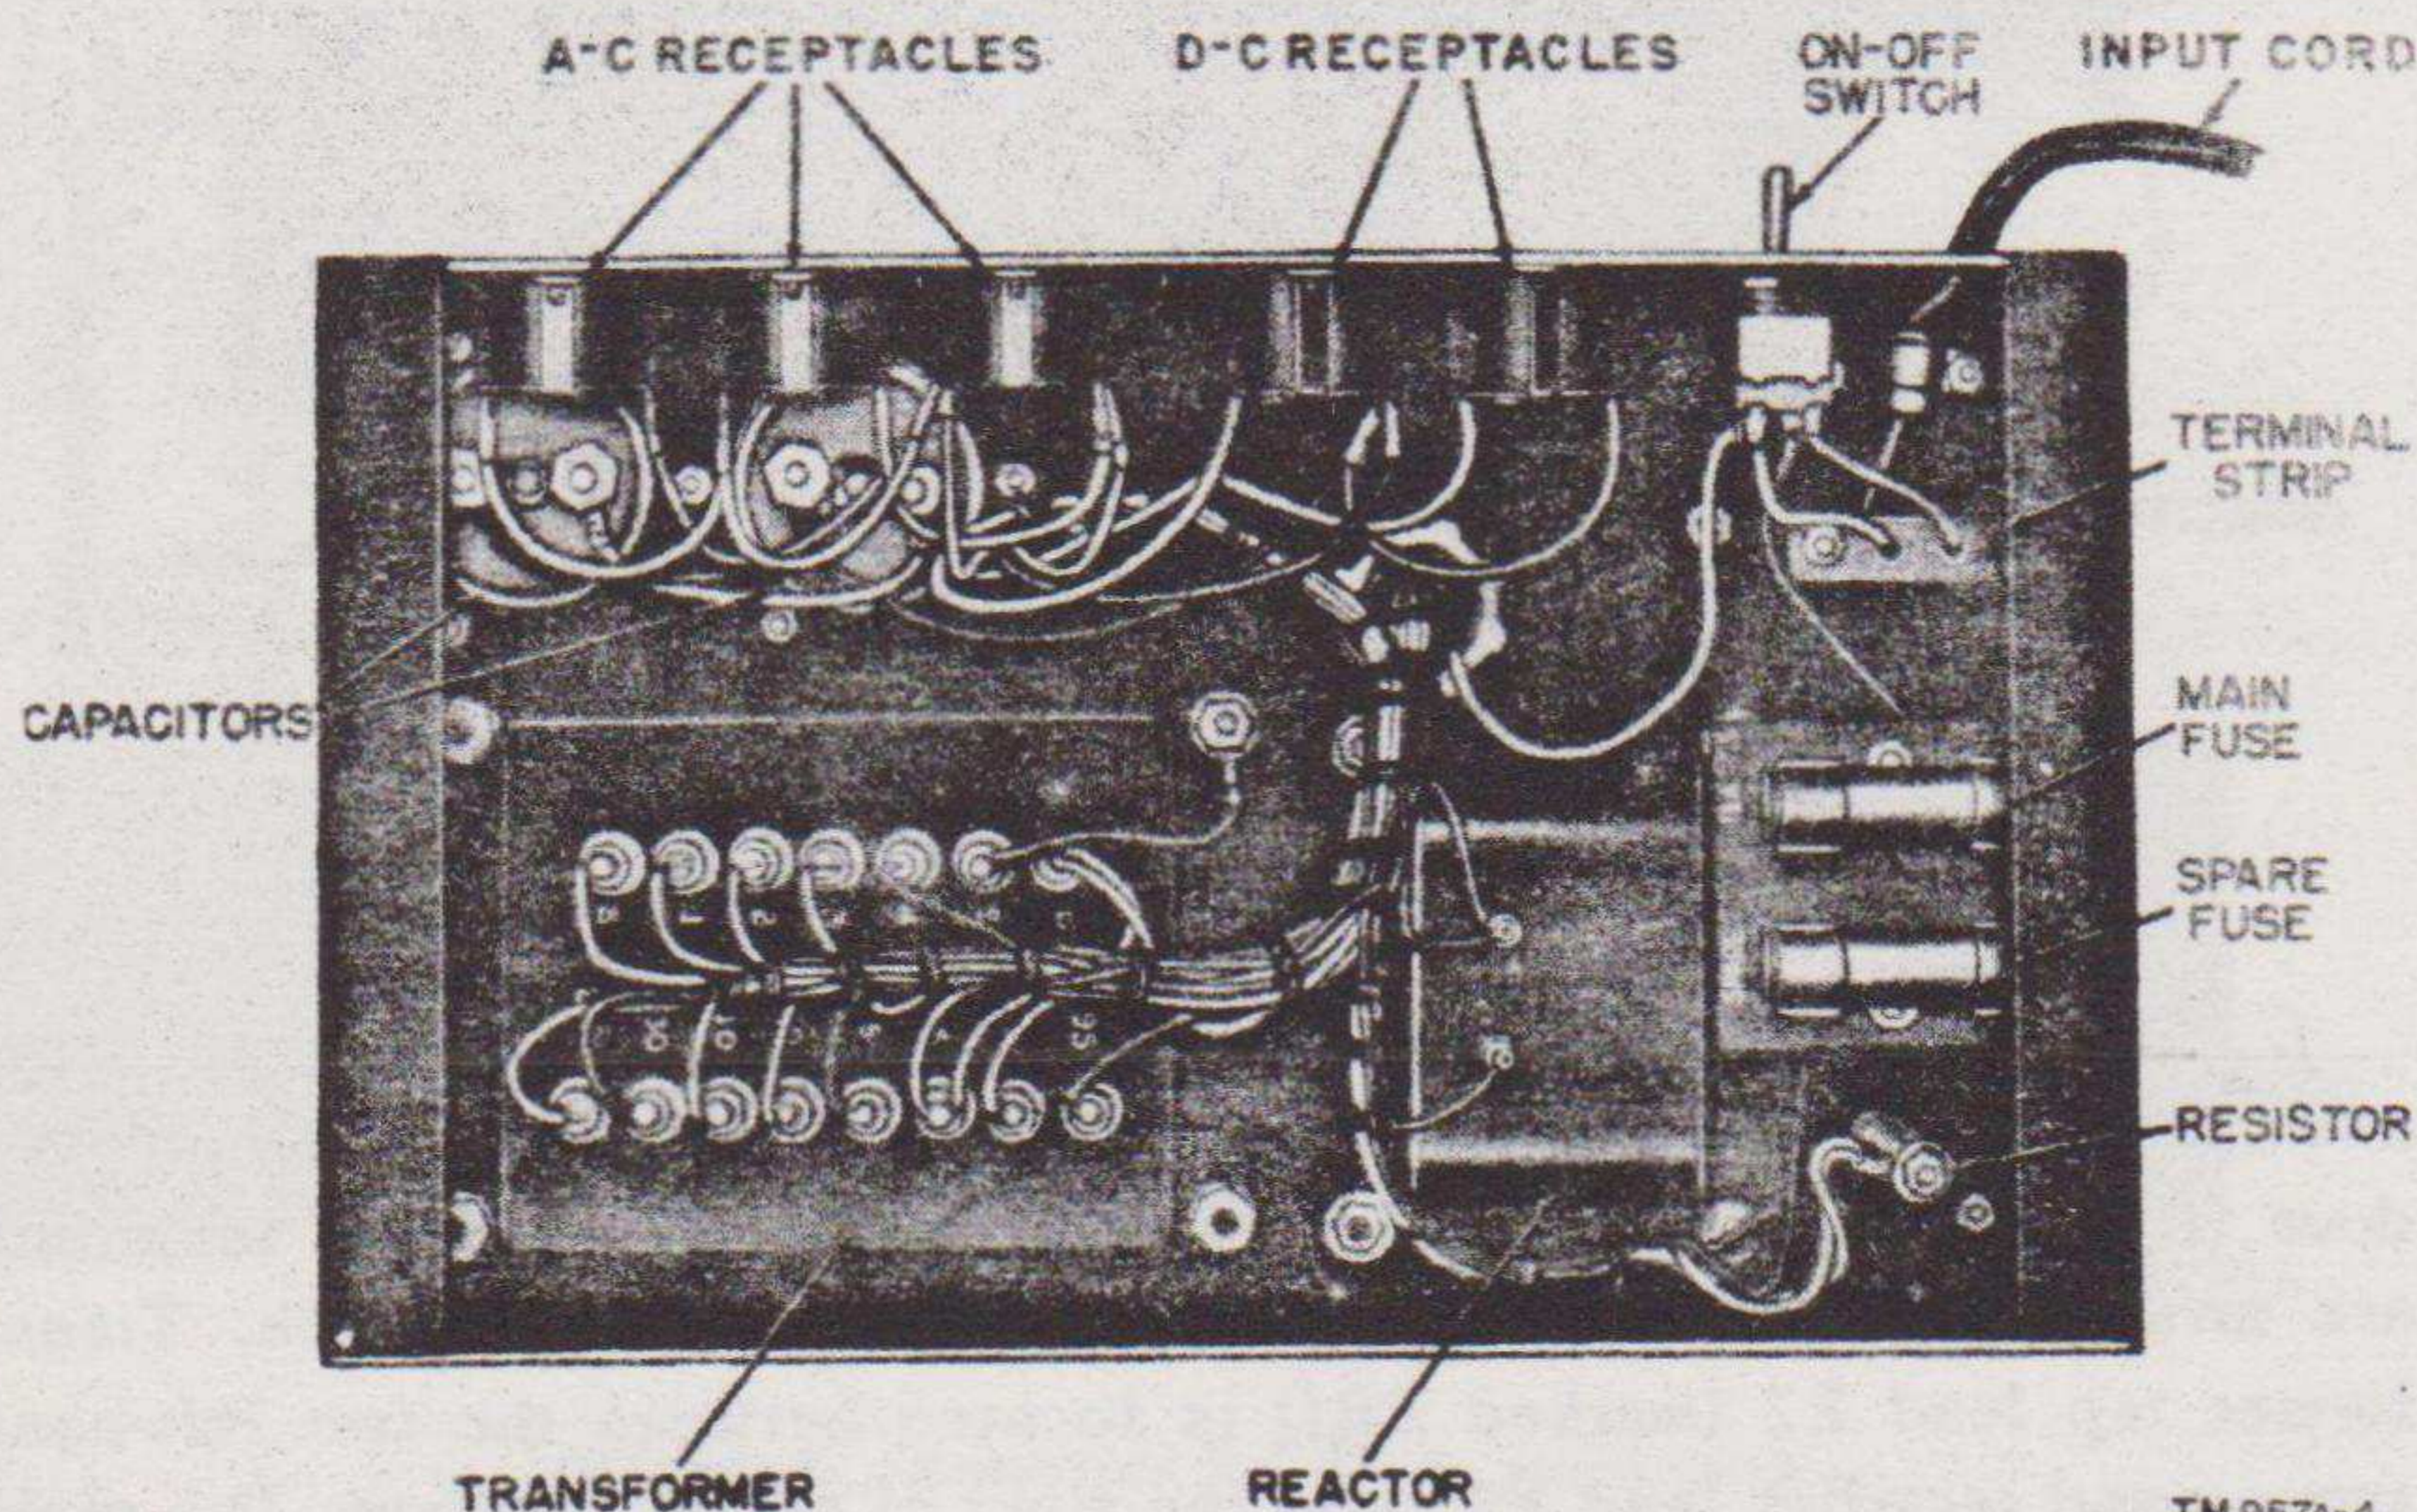

Figure 4. Rectifier RA-87-A, bottom view.
5. Major Parts and Assemblies (figs. 4 and 5)